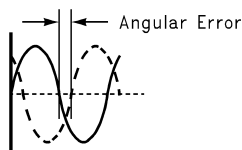

Figure 20. Angular Errors Between the Two Input Signals Will Reduce the Output Level
- Where dev is the angular difference, in degrees, between the two signals having a 180° relative phase relationship to each other (see Figure 20)